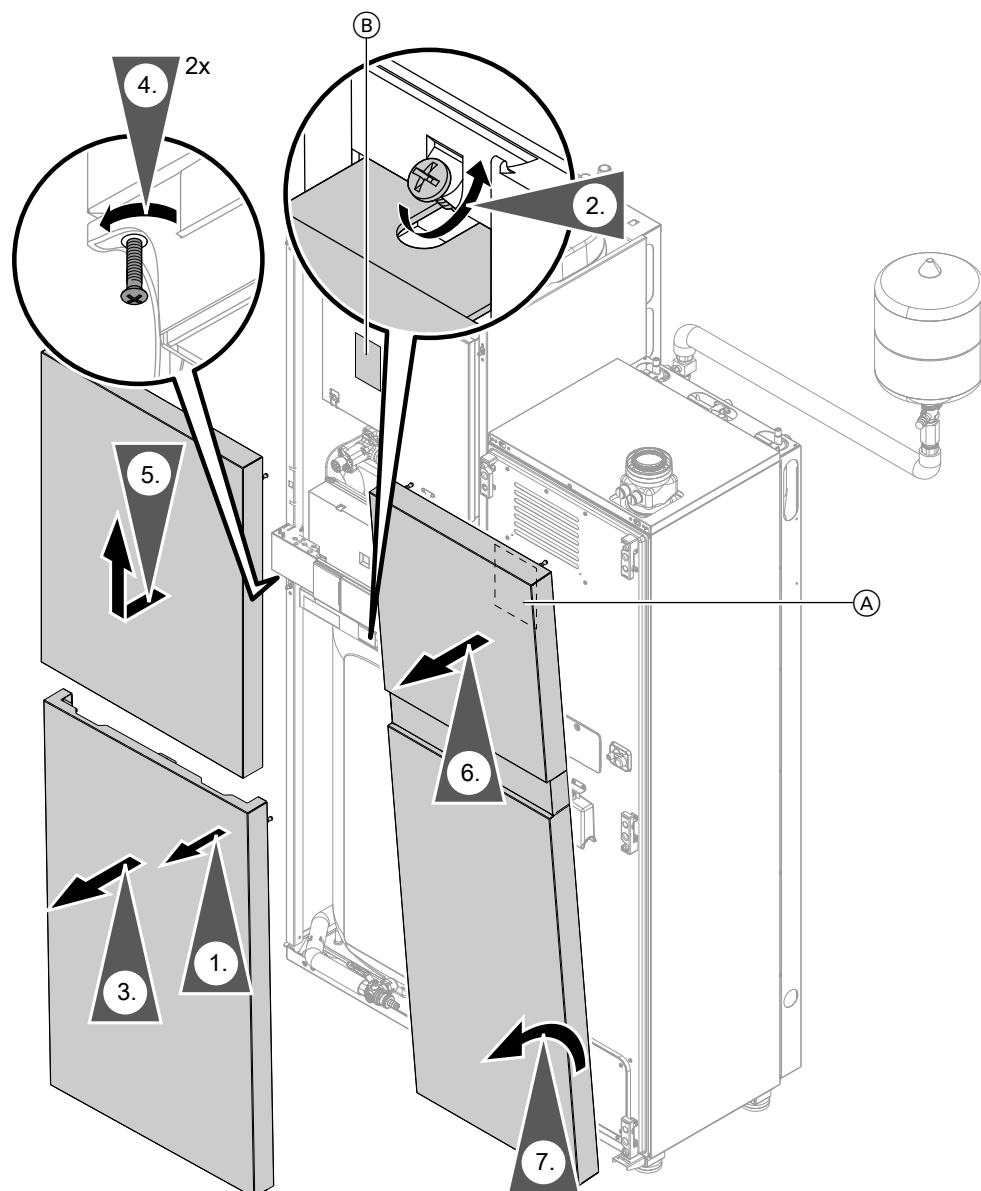

Fig. 49
Check the fuel cell type on type plate (A) of the fuel cell module and indicate it with ☒ on type plate (B) of the Vitovallor 300-P (see fig. 49).